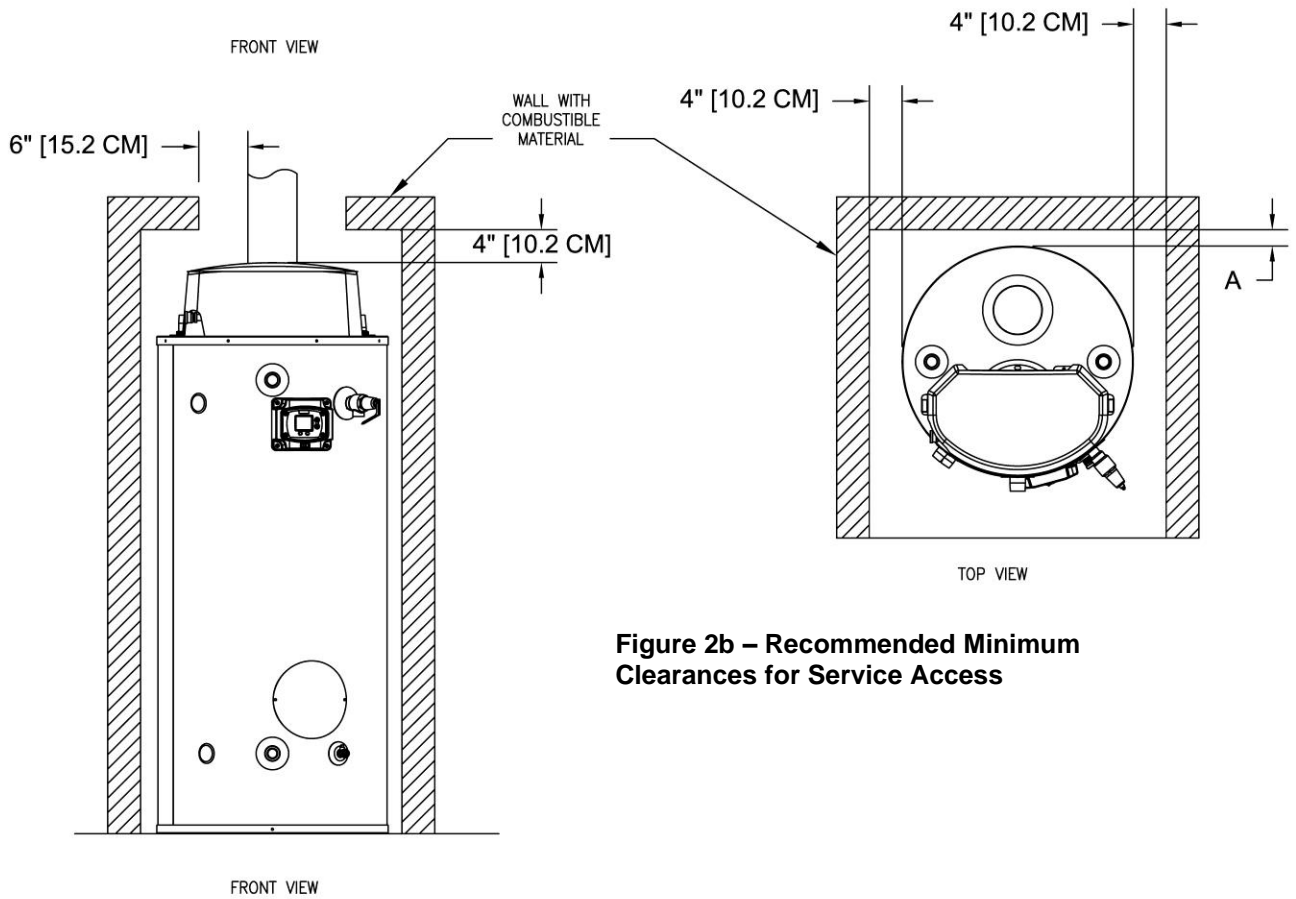

Figure 2b – Recommended Minimum Clearances for Service Access
6. It is recommended that minimum clearances shown in Figure 2b be provided on the sides and top of the water heater for servicing and maintenance of the water heater. Increase distances to provide clearance for servicing.